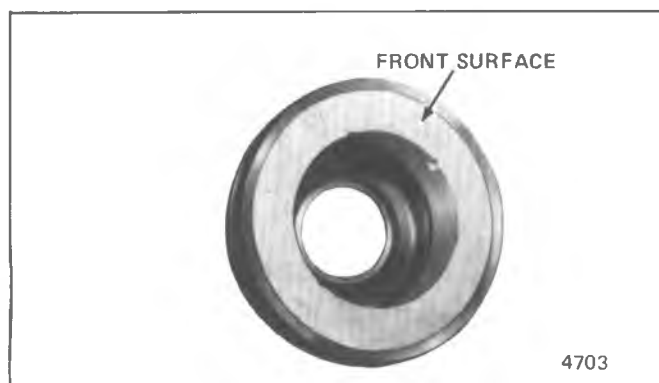

Figure 1D-89 R-4 Clutch Coil Assembly
3. Slide the pulley rim off the Rotor and Hub assembly. The Pulley Rim and the Clutch Coil (Figure 1D-89) are replaceable at this point.